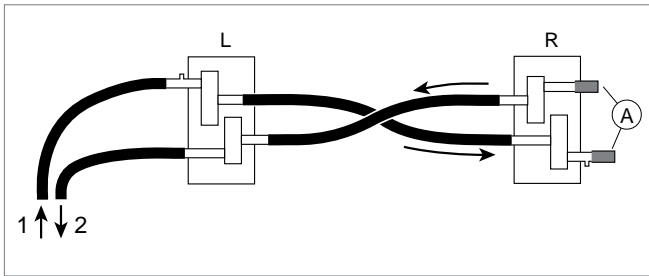

Fig. 34: Heater coolant hose connection (LH)
- left side connection Fig. 34